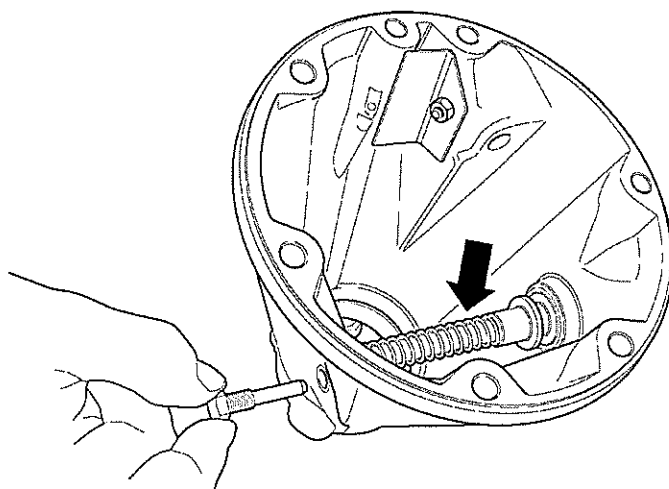

Fig 17 Refitting selector shaft
27.5 Insert selector shaft with return spring. Smear thread and head of guide bolt with Loctite 242, then tighten (see Fig 17).